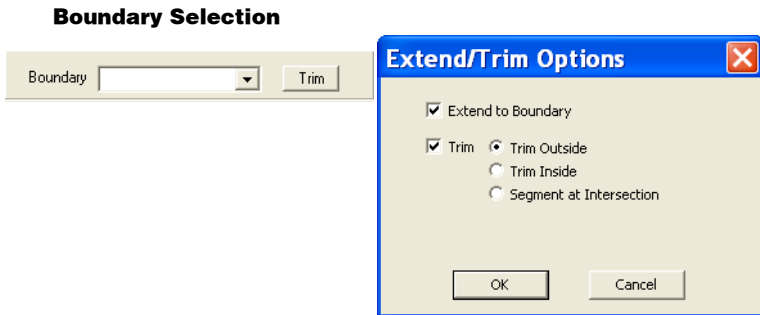

Figure 10-32. Extend or Trim a Selection to a Boundary
4. Select or enter a boundary name on the **boundary selection input bar** above and press **Trim** (Figure 10-32 on page 10-31). The *Extend/Trim Options* dialog box appears (Figure 10-32 on page 10-31).